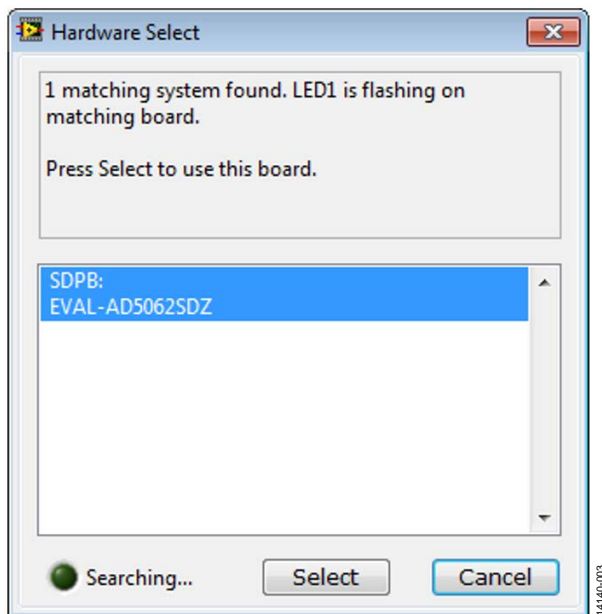

Figure 3. Connection Message
3. Click **Start** > **All Programs** > **Analog Devices** > **AD506x Evaluation Software**. The software will identify the board connected to the SDP-B and display the board name, as shown in Figure 3.